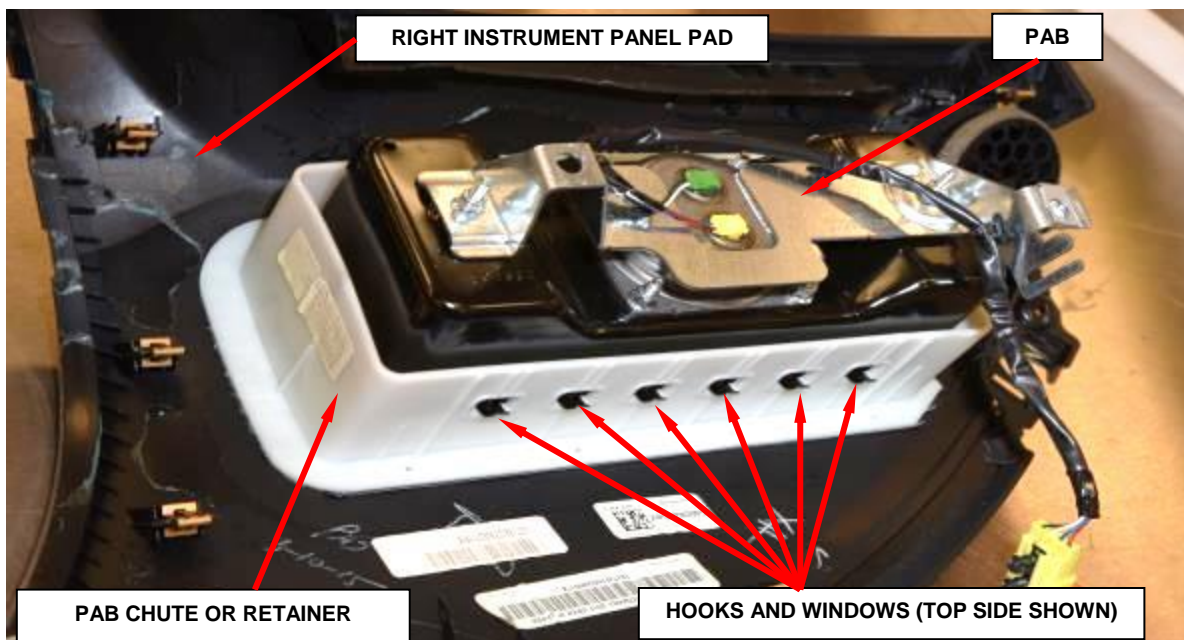

Figure 16 – Passenger Airbag Removal
12. Disengage each of the hooks on one side of the PAB housing from the windows in the forward and rearward vertical walls of the PAB retainer or chute on the underside of the top pad. To disengage the hooks, use hand pressure to pull the adjacent edge of the PAB housing firmly and evenly upward out of the retainer receptacle, while at the same time pulling the upper edge of the PAB receptacle wall outward far enough to disengage the hooks (Figure 16).